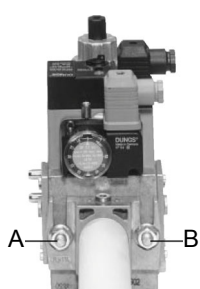
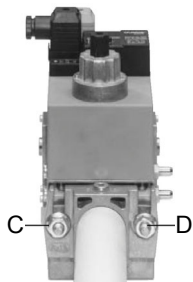
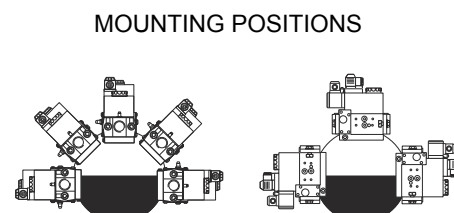

Fig. 6
Fig. 7
Fig. 9
- 3 Tighten screws A, B, C and D (Fig. 6 - Fig. 7) according to the mounting positions (Fig. 9)